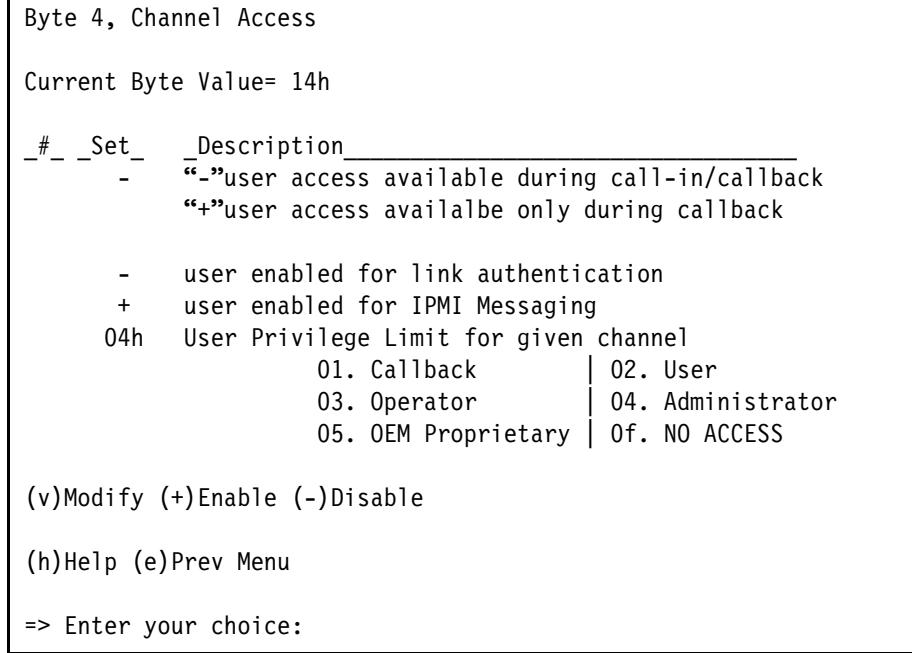

Figure 2-24 Displaying the user access
5. Enter 3 to display the access in textual format. A screen similar to Figure 2-24 on page 34 appears.